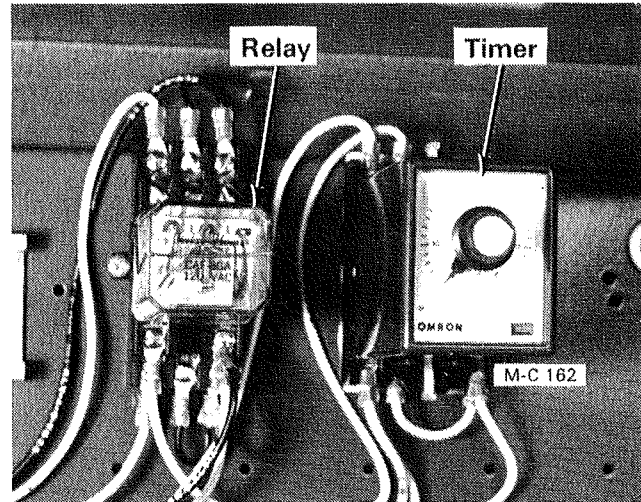

Figure 25
1. Flip the level auger switch to the AUTOMATIC position. Turn the timer control knob, Figure 25, to 30 minutes. The level auger will start after the 1 minute delay if the level auger light is on calling for grain.
3. Average the 6 refill times and reset the Low Grain Level Timer, Figure 25, to run 5 minutes longer. For example, if it takes the level auger an average of 5 minutes to refill the dryer (including the 1 minute delay), set the Low Grain Level Timer to run 10 minutes.